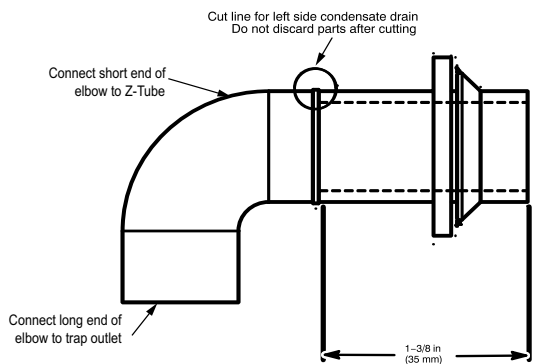

Fig. 17 – Modify Rubber Drain Elbow
3. The Z-pipe is connected to the condensate trap and the outside of the furnace by modifying the formed rubber drain elbow as shown in Fig. 17.
4. Remove the formed grommet from the rubber drain elbow by cutting the elbow along the vertical line located about 1-3/8 in. (35 mm) away from the formed grommet. See Fig. 17. DO NOT DISCARD THE FORMED GROMMET OR THE RUBBER ELBOW. Both of these pieces will be used.
TIP FROM CONTRACTORS: When installing the furnace horizontally, use the entire drain elbow (that is, do NOT cut as shown in Fig. 17 to connect the trap to the drain line. This helps to prevent bumps and shocks to the drain line from damaging the furnace drain trap. Avoid misalignment of the drain pipe which may cause kinks in the elbow.